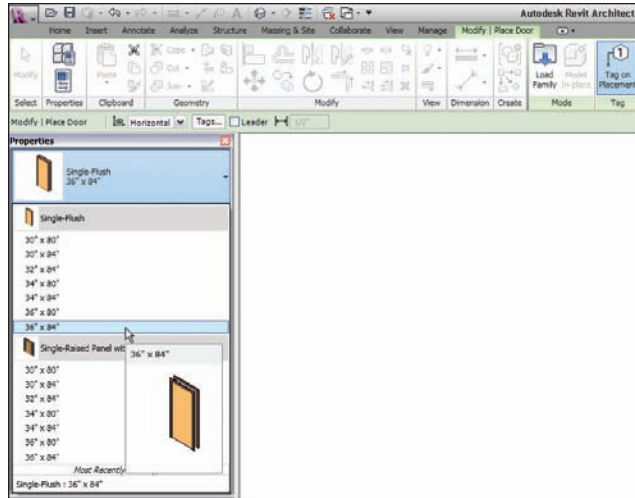

FIGURE 1.54 Each family .rfa file will contain multiple types associated with that family.
7. In the Properties dialog, click the change element type menu, as shown in Figure 1.54. Notice that not only did you bring in the raised panel door family, but you also have seven different types of the same door. These types are simply variations of the same door. You no longer have to explode a “block” and modify it to fit in your wall.
8. Select Single-Flush 36” x 84”, as shown in Figure 1.54.